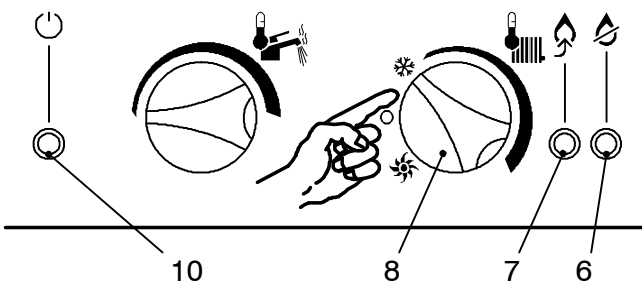
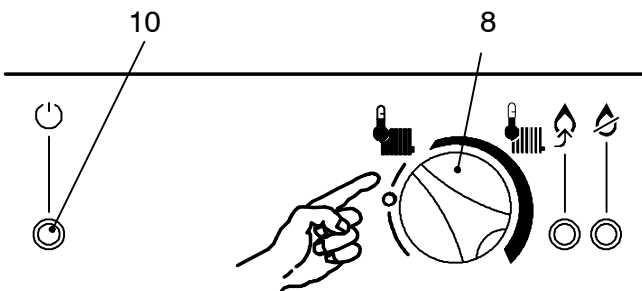

fig. 7.3
fig. 7.4
- 2 Turn the function selector 8 as in fig. 7.3 (combi) or fig. 7.4 (c.h. only). The appliance operation light 10 will flash every 2 seconds.
To reset the boiler press and release the boiler reset button 7 (fig. 7.3).